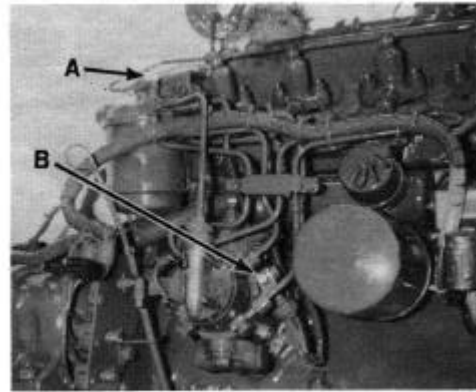
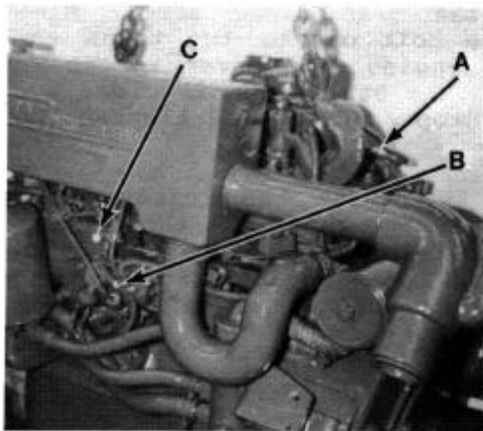
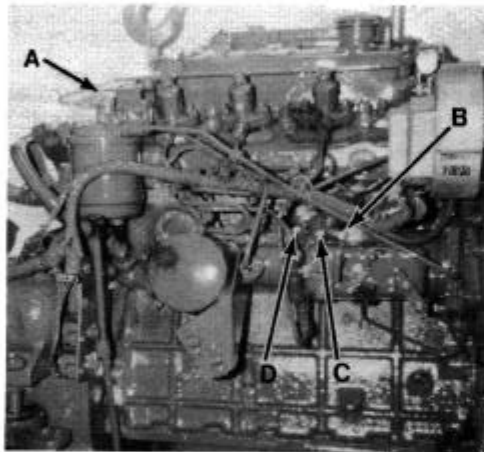

Figure 2
Figure 3
Figure 4
WESTERBEKE W30 (Figure 2), W40 & WPO10, 12h, 15 (Figure 3), W50 & WBO 15 (Figure 4), W80 & BR 30 (Figure 5), W120 & BR 45 (Figure 5)
4. Replace lubricating oil filter, Figure 2. See Note.